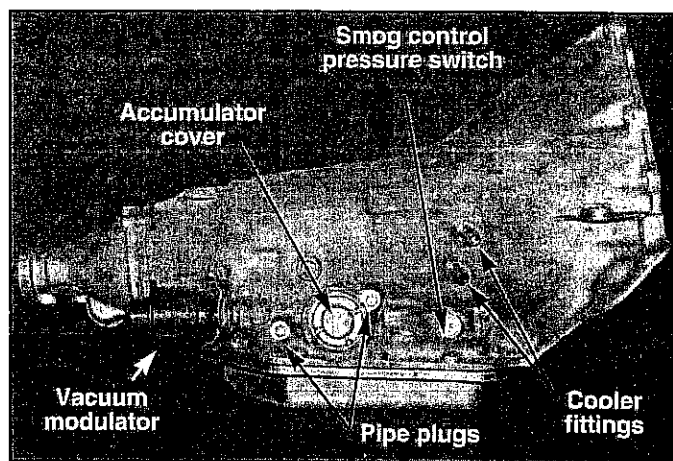

FIGURE 1
STEP 3. Loosen and disconnect oil cooler lines. Try to use a fitting wrench to avoid damaging the compression fitting nuts on stock oil cooler lines. Also disconnect vacuum line to vacuum modulator. (See Fig. 1)
There have been several different model TH350 transmissions produced. Where there are differences in disassembly procedures they will be so noted in the instructions. If you find it necessary to replace any transmission hard parts during TransKit installation, make sure to record the information from the accumulator cover on the right side of the case when you go to your G.M. dealer (See Fig. 1)
STEP 30. Remove and discard range selector shaft (shifter) oil seal. Remove oil cooler fittings from case. (See Fig. 1) Remove 1/8" pipe plugs from two or three locations. Remove smog control pressure switch, if equipped. The case is now stripped and ready to clean. The park pawl and spring do not have to be removed. When handling the case, be careful not to damage the valve body surface as this can cause erratic operation.